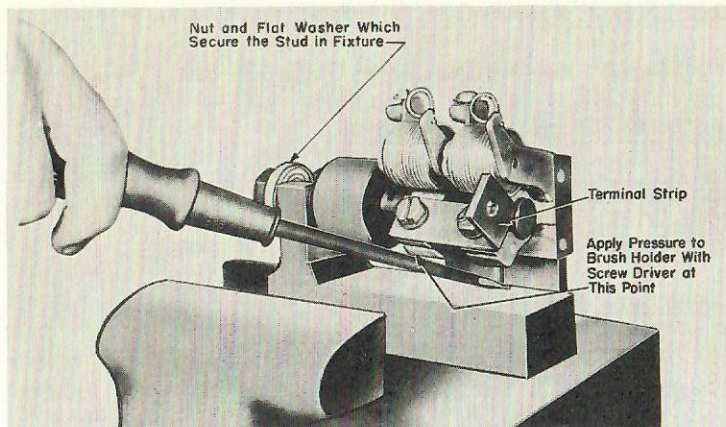

Fig. 10-11
6. Loosen or remove nut from end of stud and lift complete assembly from fixture. If assembly does not readily come off the fixture, gently pry between base of fixture and clamping lug with a screw driver. See Fig. 10-11. Do not damage carbonways or mycalex insulation on stud.